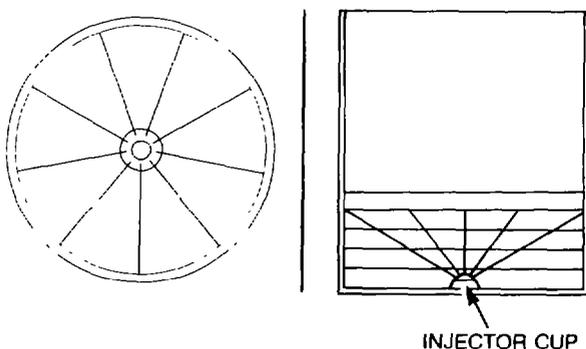

Figure 90 — Injector Cup Spray Pattern
- ah. Observe the spray pattern of the cup and record which mark on the tester the spray pattern is nearest to. The correct spray angle is 18° from each of the nine injector cup orifices. The scribed marks represent an angle of approximately 5° between one another. The limit for used cups is plus or minus 2°. All the spray holes should produce the same spray pattern and obtain the same height (see Fig. 90).